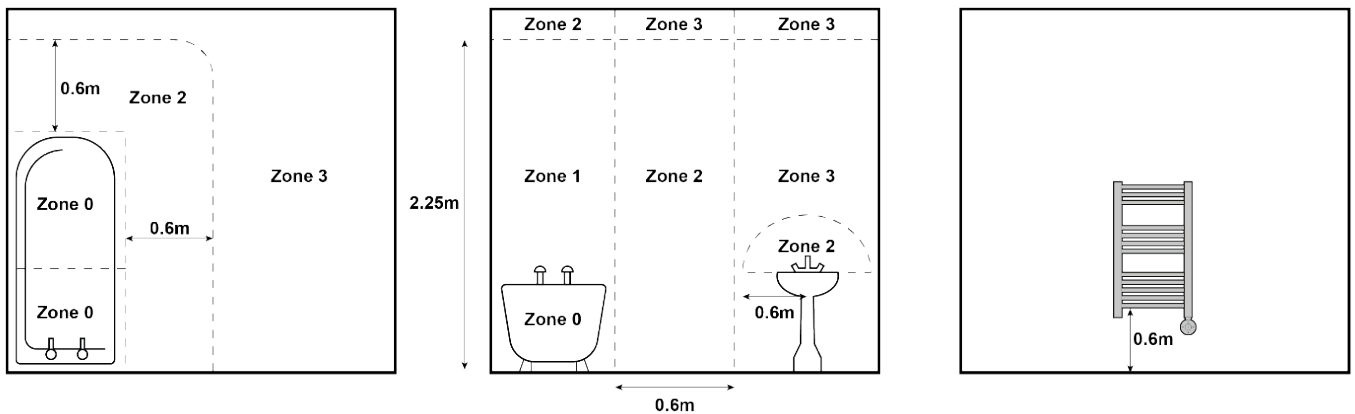

Fig. 4
WARNING: In order to avoid a hazard for very young children, this appliance should be installed so that the lowest heated rail is at least 600 mm above the floor (Figure 4).
- Do not install CIRCLE into a towel rail fitted in ZONE 0 or ZONE 1 (Zone definition IEC 60364-7-701 in Figure 4).